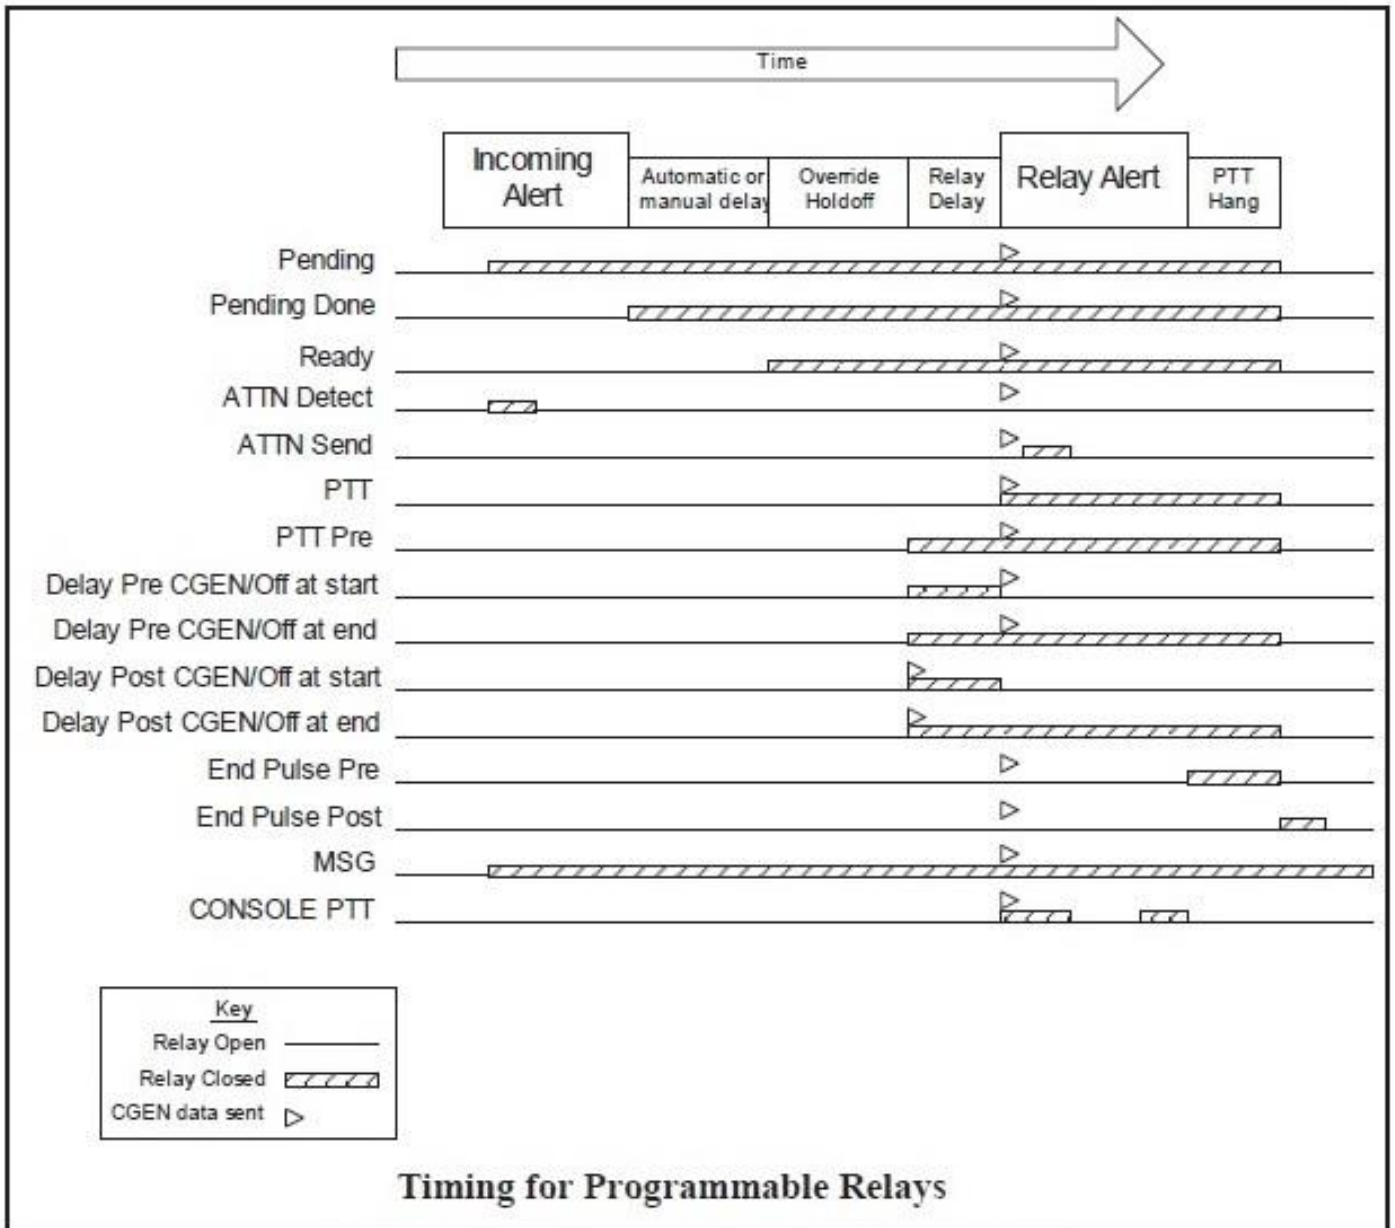

Figure 6.
- b. There are four (4) virtual relays (solid state switches, Ext #1,2,3,4) available for additional signaling or control. These “virtual relays” can be used if you need to introduce timing functions to your Endec programming but do not need a relay output. Using these relays leaves the physical relays available for signaling and control of external devices. These are off by default.
- c. Each relay can be configured for any of the available functions as shown in the Relay Timing Chart shown in Figure 6 and detailed in the User Guide relay programming section.